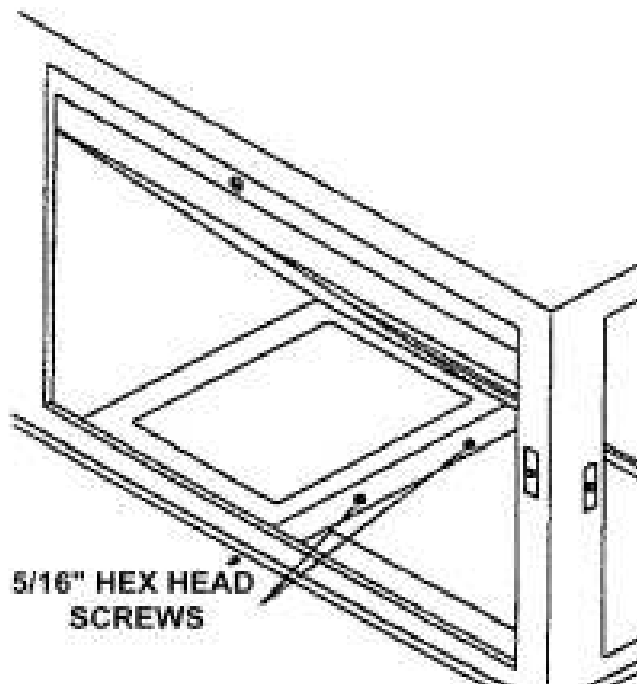

Figure 11 - Flange screws
11. Use a 5/16 in. driver to remove the two screws located in the floor flange between the RA and OA compartments. Save the screws for later use. See Figure 11.